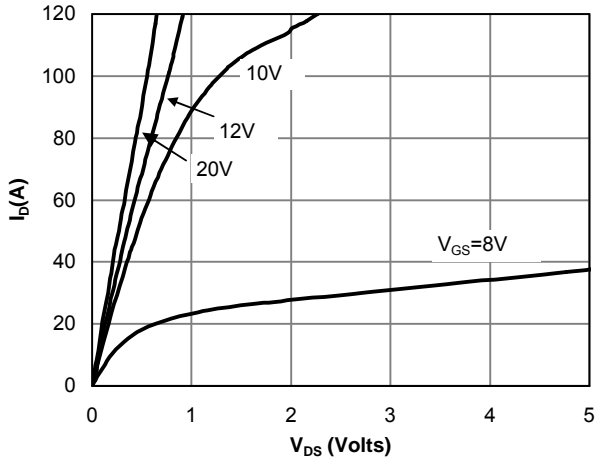

Figure 1: On-Region Characteristics
E. The static characteristics in Figures 1 to 6 are obtained using  $<300\text{us}$  pulses, duty cycle 0.5% max.